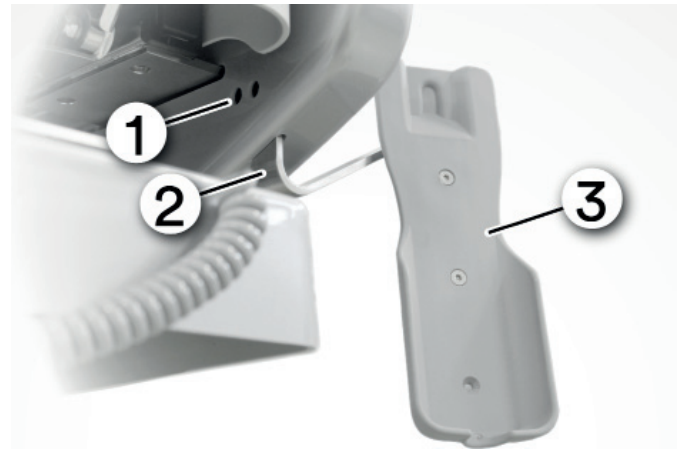

Fig. 17
In the standard configuration, the fixture for the cradle for chairs **without side rails on the seat section** is attached at the left as shown in Fig. 17. However, it can also be attached on the right side.
- ▶ Attach the cradle to the side of the seat section as shown in Fig. 17.